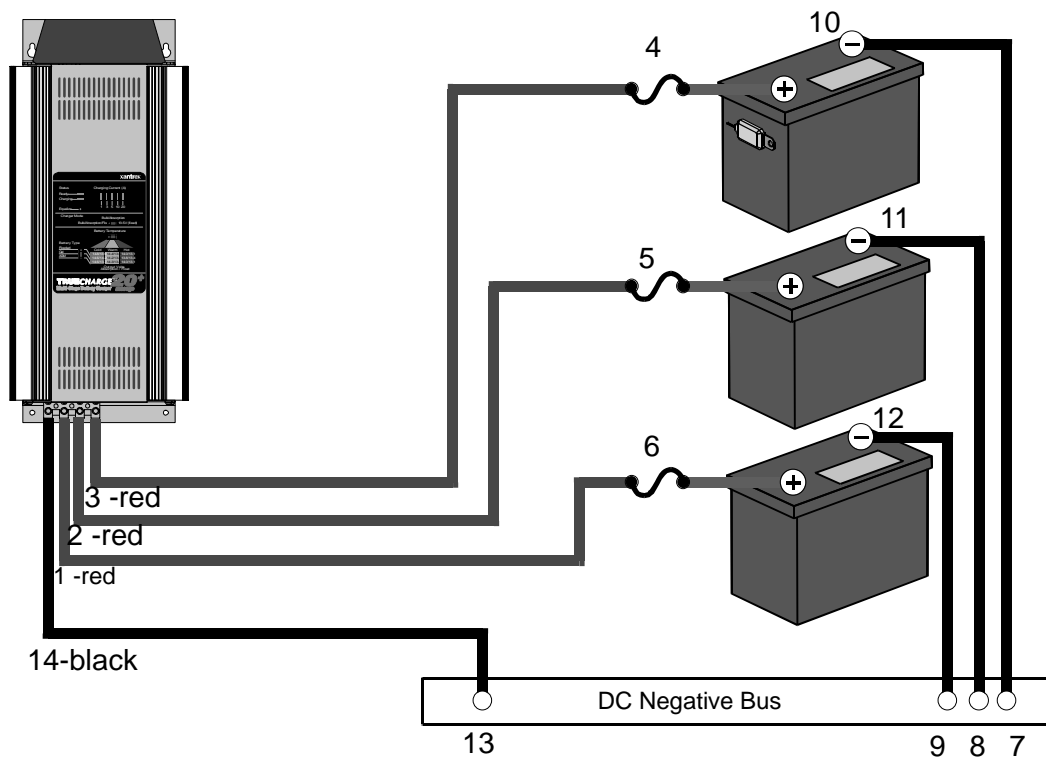

Figure 2-3 DC wiring connection order
The procedure for installing the DC wiring applies to a single battery or multiple batteries or battery banks. Figure 2-3 shows the connection order.
6. Fully insert each positive wire into the positive terminal on the charger (Figure 2-3, 1, 2, 3). Make sure there are no stray wire strands protruding from the terminal. Tighten the connector (20 in-lbs torque) and test that the wire is secure. Repeat this step for up to three batteries or battery banks.
7. Connect the positive cable from the positive wire terminals on the charger to the battery fuse or breaker, which should be installed on the battery positive terminals (Figure 2-3, 4, 5, 6).
- Fully insert the negative wire into the negative terminal on the charger (Figure 2-3,14). Make sure there are no stray wire strands protruding from the terminal. Tighten the connector (20 in-lbs torque) and test that the wire is secure.
- Connect up to three negative cables to the DC negative bus or engine negative bus (Figure 2-3, 7,8,9), one for each battery bank.
- Connect each negative cable to the battery negative terminal (Figure 2-3, 10, 11, 12)
- Connect a negative cable from the DC negative bus to the negative terminal on the Truecharge+ (Figure 2-3, 13, 14).
11. Fully insert the negative wire into the negative terminal on the charger (Figure 2-3, 14). Check all connections for tightness and to ensure the conductors are fully inserted in their terminals with no stray wire strands protruding. Tighten the connector (20 in-lbs torque recommended) and test that the wire is secure.